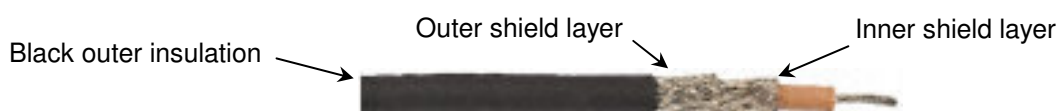

Figure 25. RG400 Co-Axial Antenna Cable
- The cable used for the Antenna should be high quality, such as RG400 (Shown in Figure 25). This cable has a double layer of shielding and better RF insulation than other cable types. Note that the coaxial cable included in most antenna kits tends to have a single layer of insulation. BNC connectors are recommended for most applications, and wherever possible crimped connectors which require a special crimper to assemble should be used. Crimped connectors are much less prone to RF leakage or assembly issues than other types (such as screw-together BNC connectors).